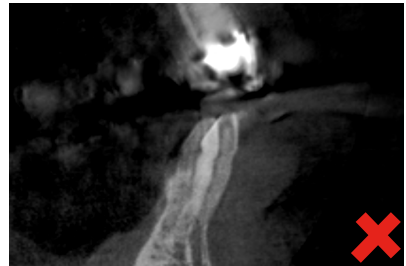

Figure 2: Patient movement
- Ensure that the patient does not move during the scan in order to avoid movement artifacts (please see figure 2).